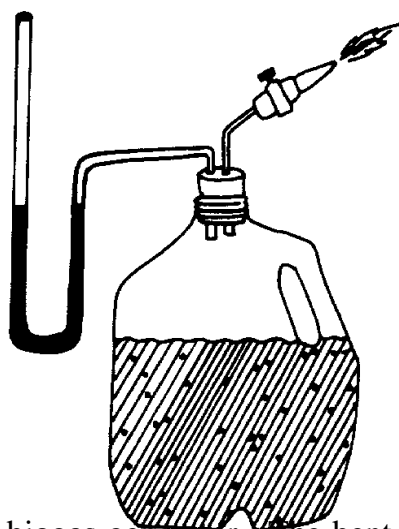

Figure 1. Completed biogas generator. The bent glass tube is called a manometer. It contains water which rises in the tube as gas is produced.
2. Build the generators and label them. Use figure 1 as a guide. The bent glass tube is called a manometer. Insert this into one of the stopper holes. It is used to indicate how much gas is being generated. It also allows for release of pressure if too much gas is produced. The burner tip goes in the other hole.